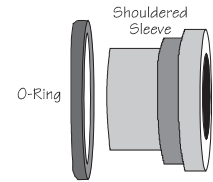

figure 1
1. One set of the shouldered sleeves, the larger ones, with O-rings should be installed in the shock eye. If not, insert sleeves with O-rings in the shock eye (see figure 1).